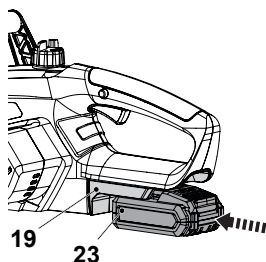

Fig. 13
1. Align the battery pack (23) with the sliding slots of the battery docking port (19) and slide the battery pack (23) in to attach it. Ensure it clicks in place (Fig. 13).